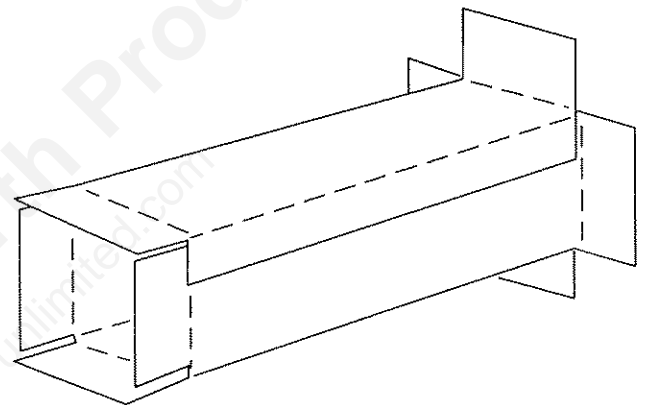

Figure 23. Fold gas conduit plate to form a tube.
- 2) Fold and install the gas line conduit plate as shown in Figures 23 and 24. Fold back the inside flaps after the conduit is through the inner cabinet wall.